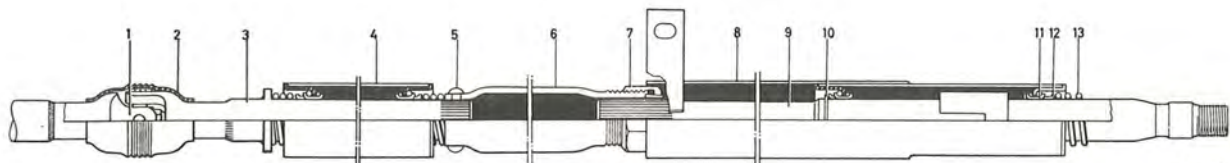

Fig. 6-41. Steering column components
To replace the upper bearing (11, Fig. 6-41), first remove the steering wheel, spring (13) and seat (12). If the other bearings are to be replaced, the steering column must be separated from the sleeve (6). If the upper steering column jacket (8) is involved, release it and then the locked nut (7). When assembling, tighten the nut (7) to a torque of 3—5 kgm (20—36 lb.ft.) and then lock the nut by driving the edge into one of the slits. If the lower steering column jacket (4) is involved, drill out the rivet (5). When assembling, use rivet KN 5×32 mm.